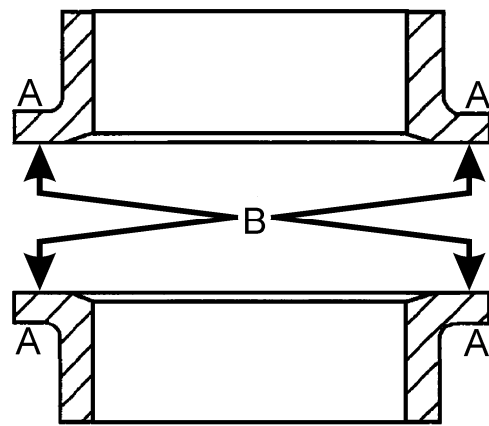

Fig. 14.63. Rubber Ring and Sealing Surfaces of Metal Face Type Oil Seal
- 2A. Remove any corrosion or hardened material that may exist on surface **A** (see Fig. 14.63). Use a scraper and/or any stiff bristled fiber brush to remove this material from entire surface.
- 2C. Apply a thin coat of clean SAE 30 oil on sealing face only (see Fig. 14.63) of metal rings. Do not allow oil to wet other surfaces. Slide sealing faces of two metal rings together.